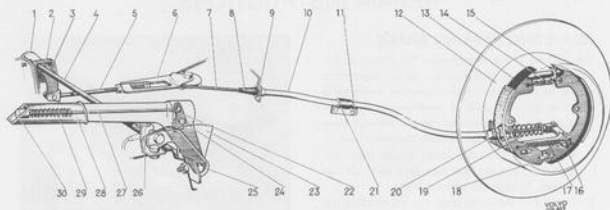

Fig. 5-77. Parking brake
The construction of the parking brake is shown in Fig. 5-77. The parking brake lever (28) is mounted on the floor on the outside of the driving seat. The movement of the lever is transmitted via the shaft (4), lever and pull rod (5) to the block (6). From here the movement is transmitted through cable (7) to the rear wheel brake units. At each wheel, the movements of the cable influence the lever (16), which is carried in a movable rod (17) on the brake shoes. The lower ends of the brake shoes are held
4. Remove the rubber cover (8, Fig. 5-77) from the cable sleeve front attachment and remove the
2. Remove the split pin and stretch the cable so that the pull rod (5, Fig. 5-77) can be removed from the lever.
- Unscrew the button (30, Fig. 5-77) and remove the spring (29) from the parking brake lever. Remove the rivet (24) and take out the push rod (27) and the pawl (22).
- Fit the new parts in the reverse order, see Fig. 5-77. Make sure that the rivet is firmly fixed but does not obstruct the movement of the pawl. Lubricate the bushes with a thin coat of ball bearing grease. Do not forget to lock the pull rod and make sure that the rubber covers seal well.